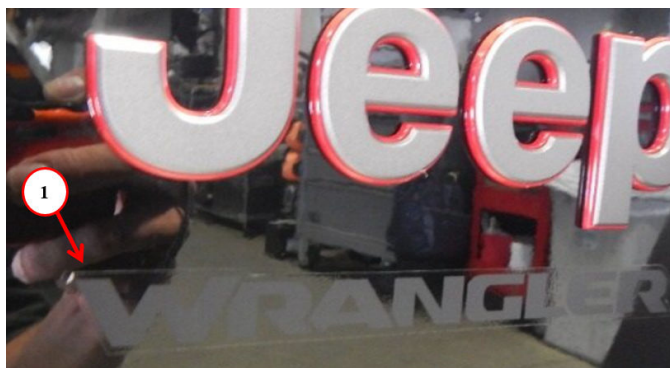

Fig. 3
10. Is the left or right side Wrangler sticker decal peeling off from either front fender Fig. 3?